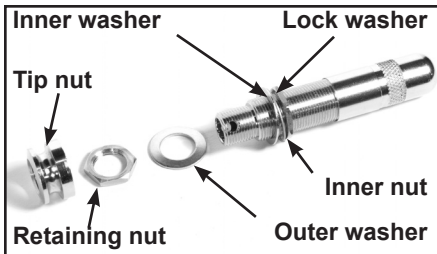

Figure 9a – Jack components
1. Remove the tip nut, the retaining nut, and the outer washer from the jack (see figure 9a). Leave the lock washer, inner washer, and inner nut in place.